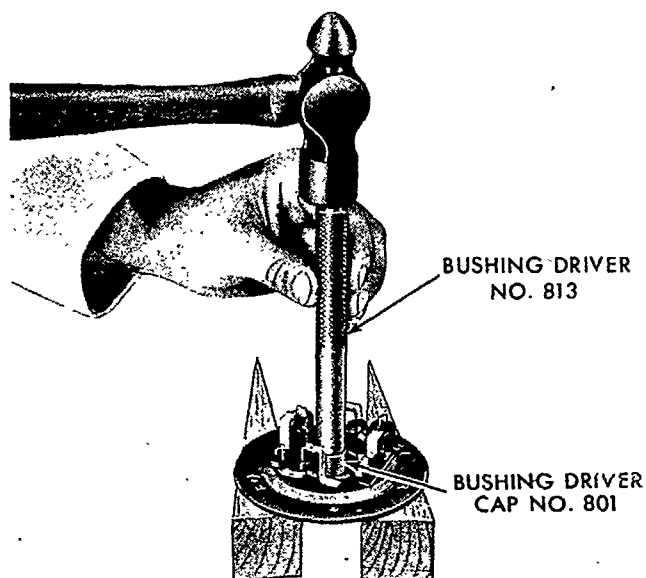

Figure 43
4. **4 1/2-Inch Starting Motor:** Install the brush end plate bushing with Bushing Driver, No. 813, and Bushing Driver Cap, No. 801, Figure 43.